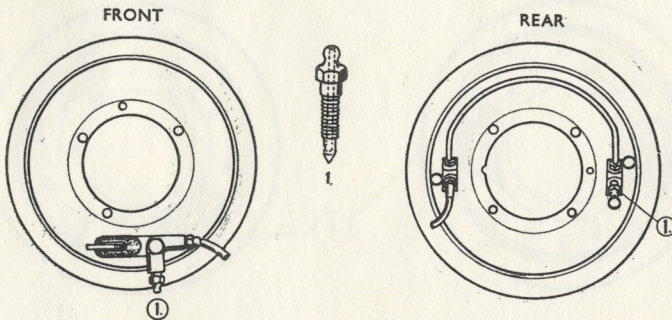

Fig. 22. Location and design of bleeder screws
2. Connect a hose of suitable size to the bleeder screw 1, fig. 22, inside the left rear wheel.